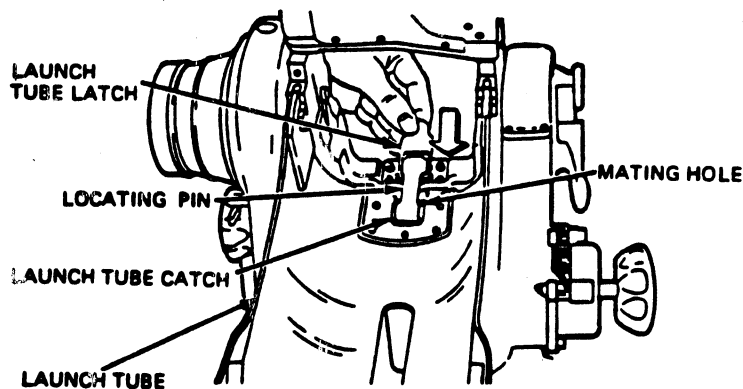

Fig 2-45. Installing the launch tube--continued.
Step 3. Line up the locating pin on the traversing unit with the mating hole in the launch tube (fig 2-45).
Step 4. Place the launch tube latch in the launch tube catch and press down on the latch until it latches (fig 2-45).